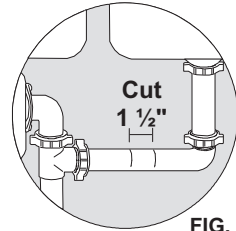

FIG. 7
1. Measure the midpoint on the horizontal waste ell and cut out 1 ½” of tubing. (See Fig. 7)